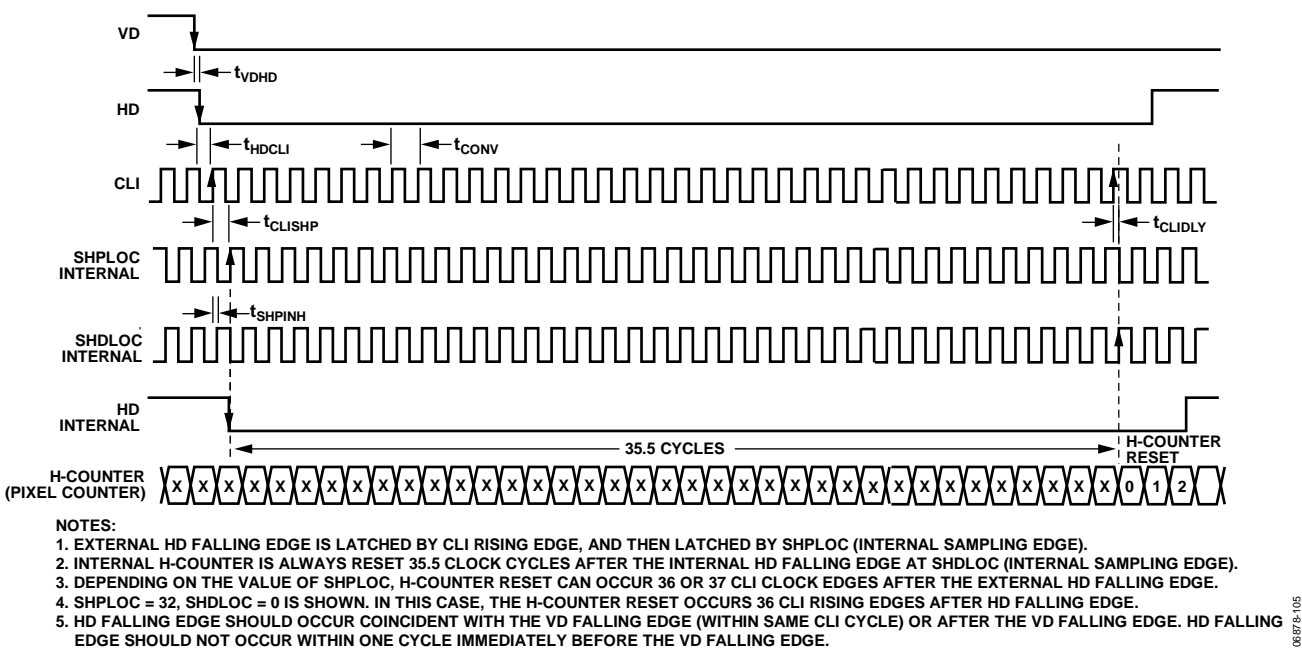

Figure 105. External VD/HD and Internal H-Counter Synchronization, Slave Mode
- There is an inhibit area for SHPLOC to meet the timing requirement t_{CLISHP} (see Figure 105, Figure 23, and Figure 24). This restriction is necessary to guarantee a stable reset of the H-counter in slave mode.